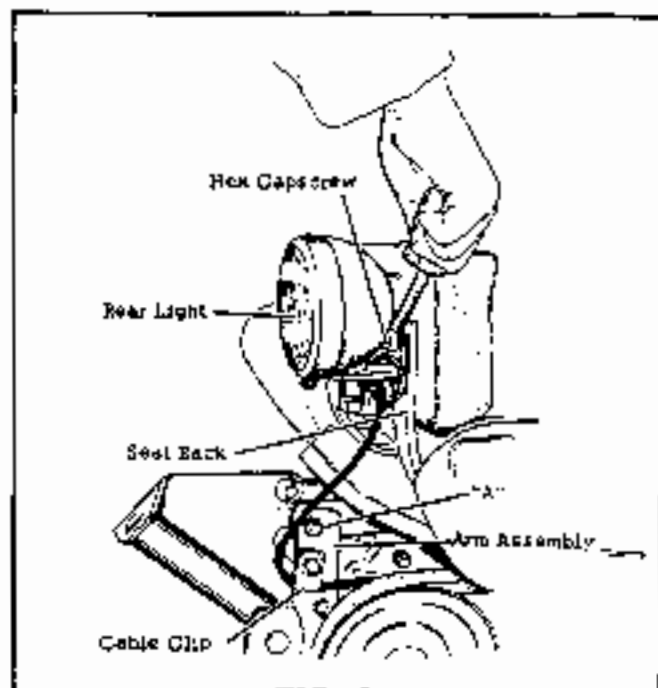

FIG. 9
11. Mount the seat assembly to the tractor, placing the arms of the seat pivot assembly between the vertical arm assembly fastened to transmission. Fasten with hex capscrews and lock nuts as shown at "A" in Fig. 9. Tighten enough to take out excessive "play" but leave loose enough to pivot properly.